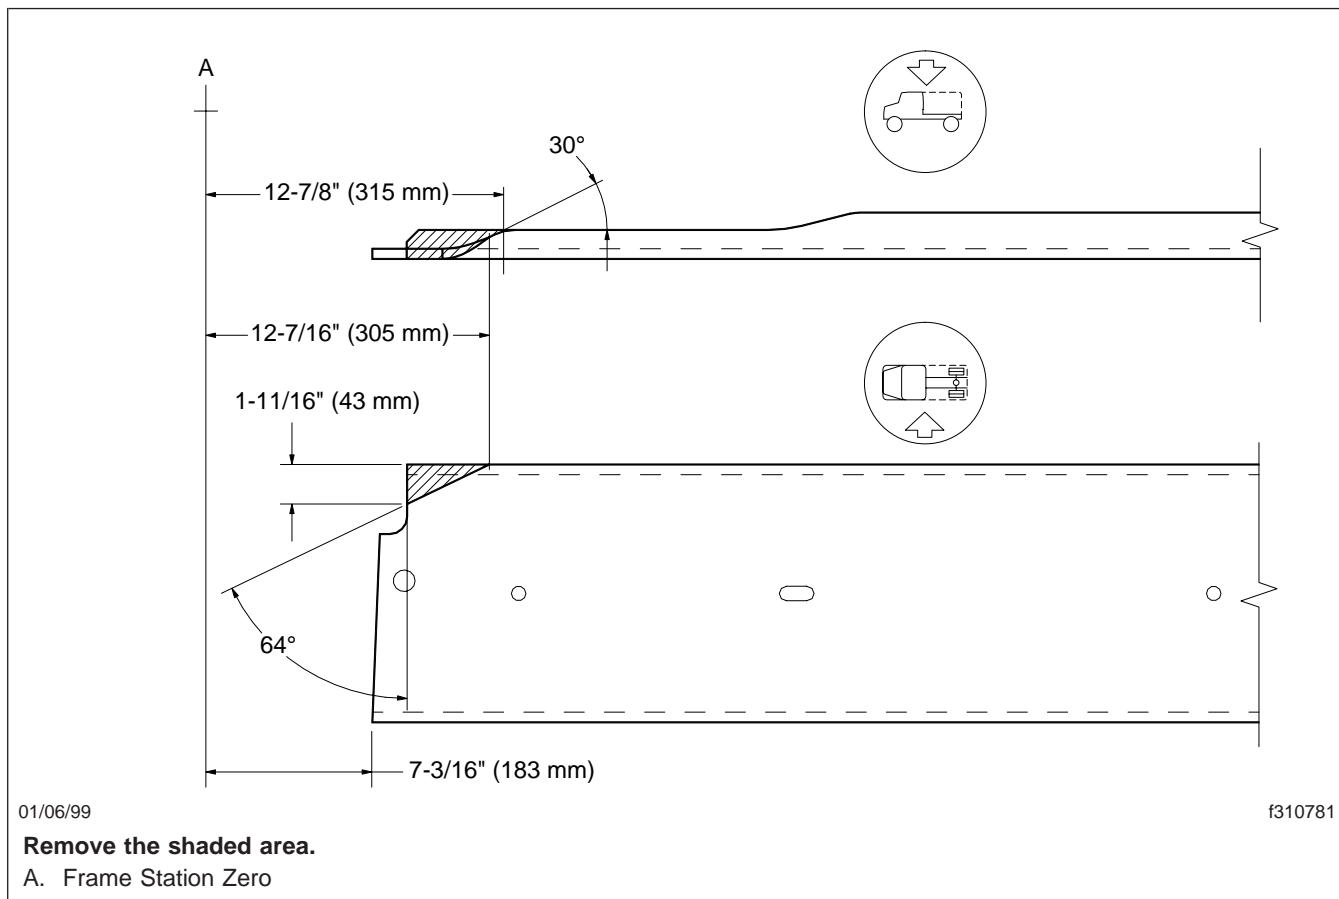

Fig. 2, Removing the Frame-Rail Corners (left frame rail shown)
- 7.3 Using either a die-grinder or a cutting wheel, remove the upper corner of the frame rail, as shown in Fig. 2.